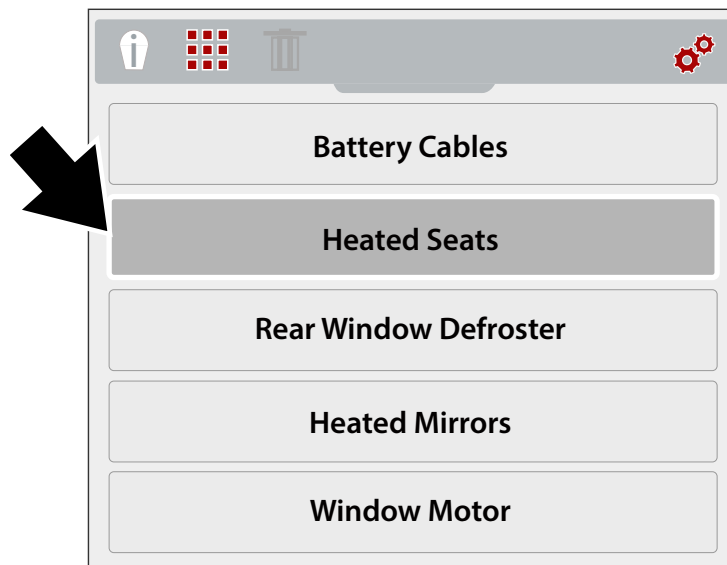

Figure 3-13 Component Menu
6. Select a menu option from the component menu (Figure 3-13).